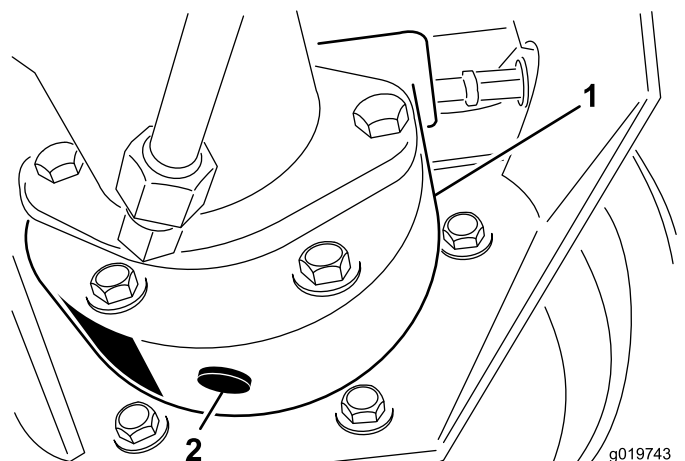

Figure 43
3. Place a drain pan under the brake housing, remove the drain plug, and allow the oil to drain (Figure 43).